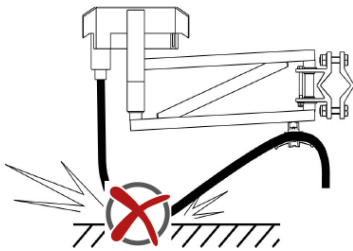
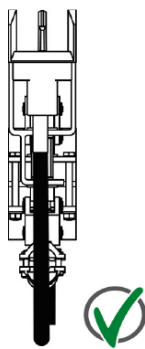

Fig. 117: The connecting cable must not be laying downward
Fig. 123: Connecting cable is not twisted
- Make connecting cable straight and highly flexible in order to avoid deflection, pulling or pressing on the sliding contacts or movement restrictions of the current collector (see Fig. 117 to Fig. 123).
- Pay attention to the selection of the connecting cable and to a correct and tension-free laying of the connecting cables (see Fig. 117 to Fig. 123).